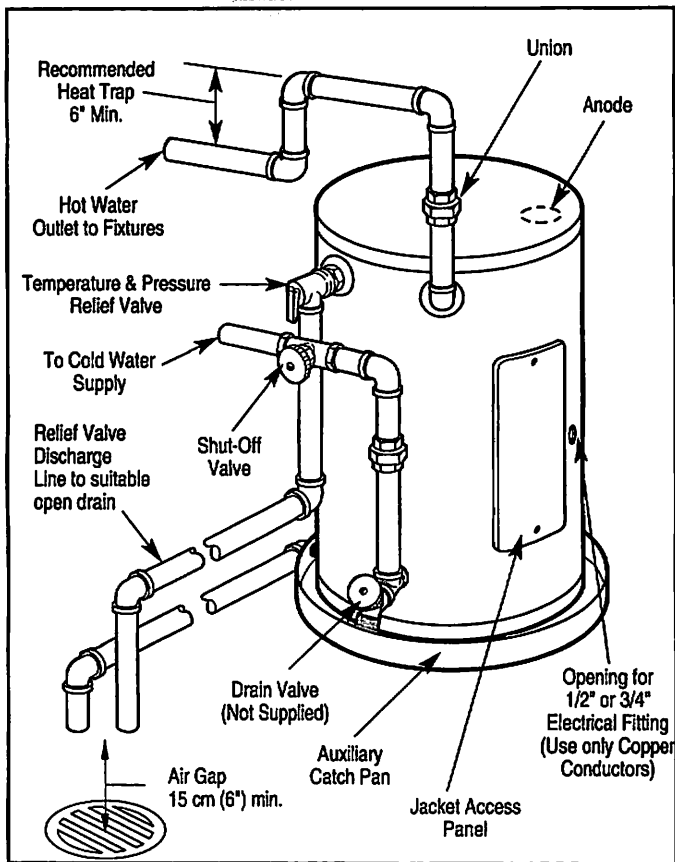
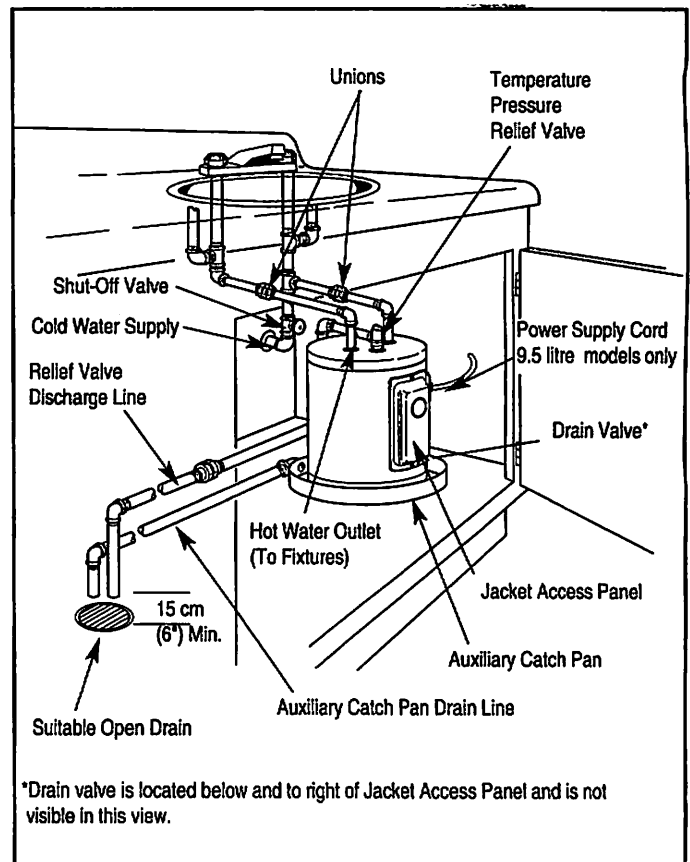

Figure 2. — Typical Side Connect Installation
Figure 3. — Typical Under Counter Installation
- 3. WATER SUPPLY CONNECTIONS** — Refer to Fig. 2 or 3 for suggested typical installation. The installation of unions or flexible copper connectors on the water connections is recommended so that the water heater may be easily disconnected for servicing if necessary. Connect cold water supply line to 3/4" pipe connection near the bottom of water heater. (Refer to Figure 2.) Install a shut-off valve and a drain valve (not supplied) in the cold water line near the water heater (Refer to Fig. 2.) Connect hot water line to 3/4" pipe connection marked HOT on the side near the top of the water heater. On the some models, the hot and cold water connections are 1/2" pipe connections and are located on top of the heater. (Refer to Figure 3.) A drain valve is supplied on these models. Local codes may require an Anti-Syphon device on the water inlet of a side connect water heater.
4. **RELIEF VALVE** — A new combination temperature and pressure relief valve, complying with the Standard for Relief Valves and Automatic Gas Shutoff Devices for Hot Water Supply Systems, ANSI Z21.22/CSA 4.4-M99, must be installed in the opening provided and marked for the purpose on the water heater. (Refer to Fig. 2 or 3) No valve of any type should be installed between the relief valve and the tank. Local codes shall govern the installation of relief valves.
The water heater is completely wired to the junction box inside jacket at top front of water heater. An opening for 1/2" or 3/4" electrical fitting is provided for field wiring connections. (Refer to Fig. 2)
- B. Non-metallic sheathed cable or metallic conduit or metallic sheathed cable not approved for use as a ground conductor shall include a separate conductor for grounding. It should be attached to the ground terminals of the water heater and the electrical distribution box. (Refer to Fig. 2)